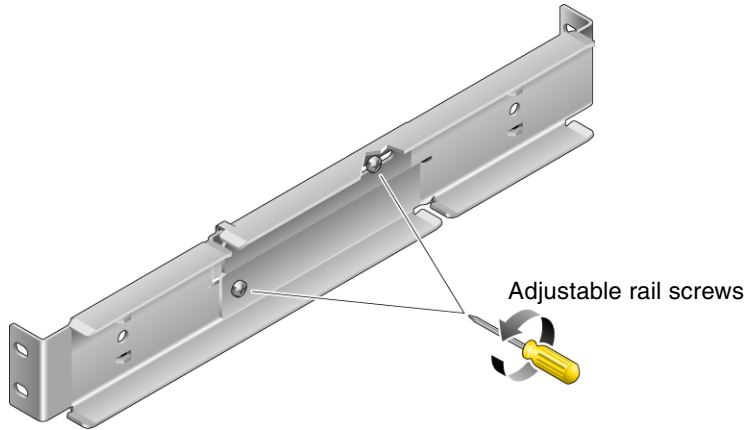

FIGURE 2-15 Locating the Adjustable Rail Screws
2. Loosen the two screws at the middle of each adjustable rail so that you can extend the adjustable rail (FIGURE 2-15).
5. Tighten the two screws at the middle of each adjustable rail (FIGURE 2-15).